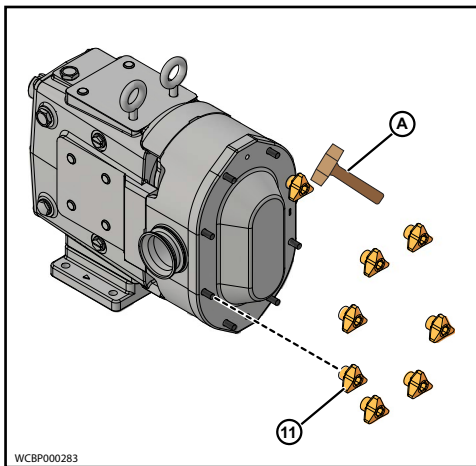

Figure 31 - Remove Cover Nuts
1. Remove the cover wing nuts (11) from the cover using a soft hammer (A) to loosen them (Figure 31).